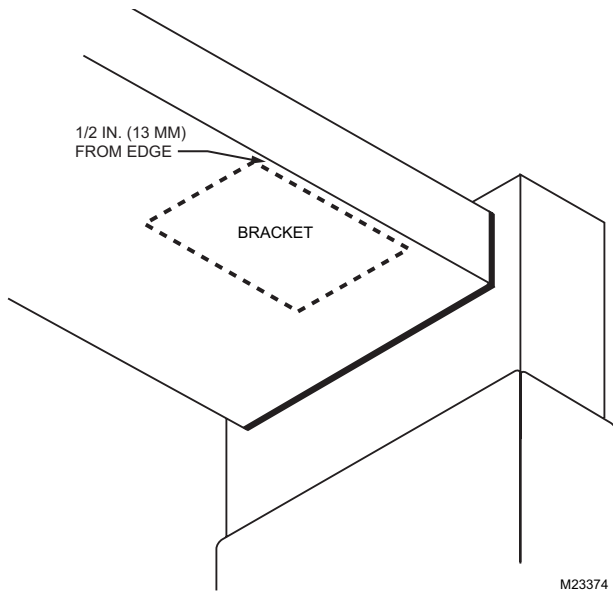

Fig. 5. Position bracket.
1. Position the bracket 1/2 in. (13 mm) from the edge of the duct and trace around the bracket. See Fig. 5.